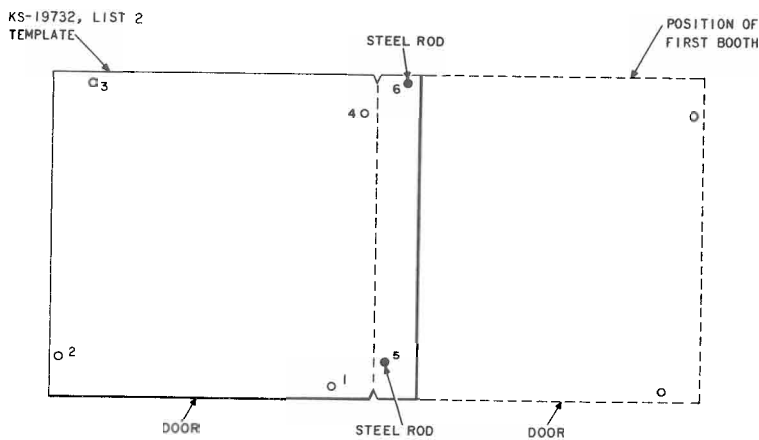

Fig. 13—Right to Left Layout for Drilling Mounting Holes
- (1) Place KS-19732, List 2 template in the position where the right-hand booth will be mounted with the "V" notches on chalk line. Holes 3, 4, and 6 should be to the right.
- (2) Repeat 3.18 (2).
- (3) Move template to the left and align template holes 5 and 6 with previously drilled holes 1 and 2, respectively (Fig. 13). Insert the two steel rods in these holes.
- (4) Repeat 3.18 (4).
- (5) If a third booth is to be installed, move template to the left and align template holes 5 and 6 with previously drilled holes 2 and 3, respectively (Fig. 13). Insert the two steel rods in these holes.
- (6) Repeat 3.18 (4).
- (7) If additional booth positions are required, repeat 3.19 (5) and 3.18 (4) respectively.